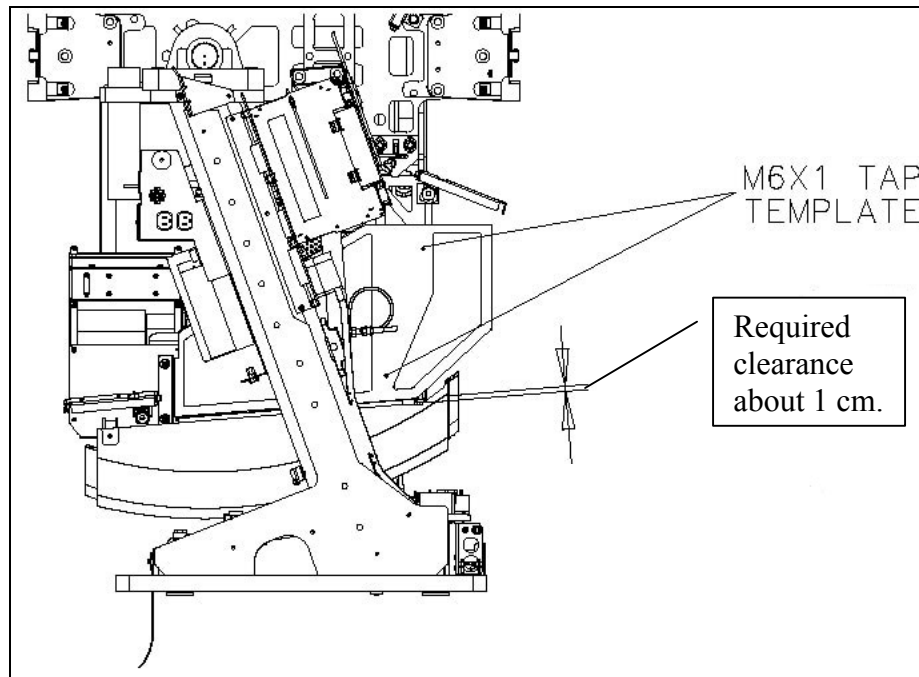

Figure 2. Right Side Panel Alignment
If holes already exist at the Tap Template locations shown in Figure 2, skip to step 18. No second FE is required to assist with the FMI!
6. Adjust panel to provide a clearance of about 1 cm as indicated in Figure 2, then tighten the two screws attached in step 4.
12. Using the supplied 5.2mm drill bit, drill two holes for the additional mounting holes required for Right Cover (see Figure 2). Apply cutting oil to the drill site as necessary to ease the drilling process.
18. Loosely fasten two front screws (46-328417P12), two lock washers (46-328432P3), and two washers (46-328431P2) to the new holes at the front edge of the panel (see Figure 2).
19. Loosely fasten two rear screws (46-328417P12), two lock washers (46-328432P3), and washers (46-328431P2) to the new holes at the rear of the panel (see Figure 2).
20. Assure that the clearance indicated in Figure 2 is met before final tightening of the four screws.